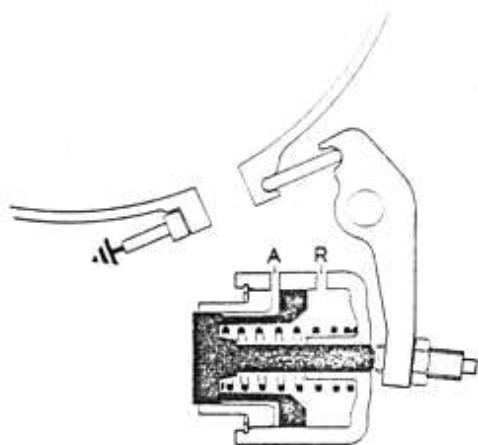

Fig. 15. Front servo operation
Movement of the shift valve to the 3rd gear position directs fluid via the common line (15) to the rear clutch and, via the servo orifice control valve, to the release side of the front servo. This pressure causes the rear clutch to be applied. Moreover, because the release area (R) of the front servo is larger than the apply area (A) as shown in Fig. 15, it causes the front band to be released. The movement also results in an area of the valve being no longer subjected to line pressure (3); this movement